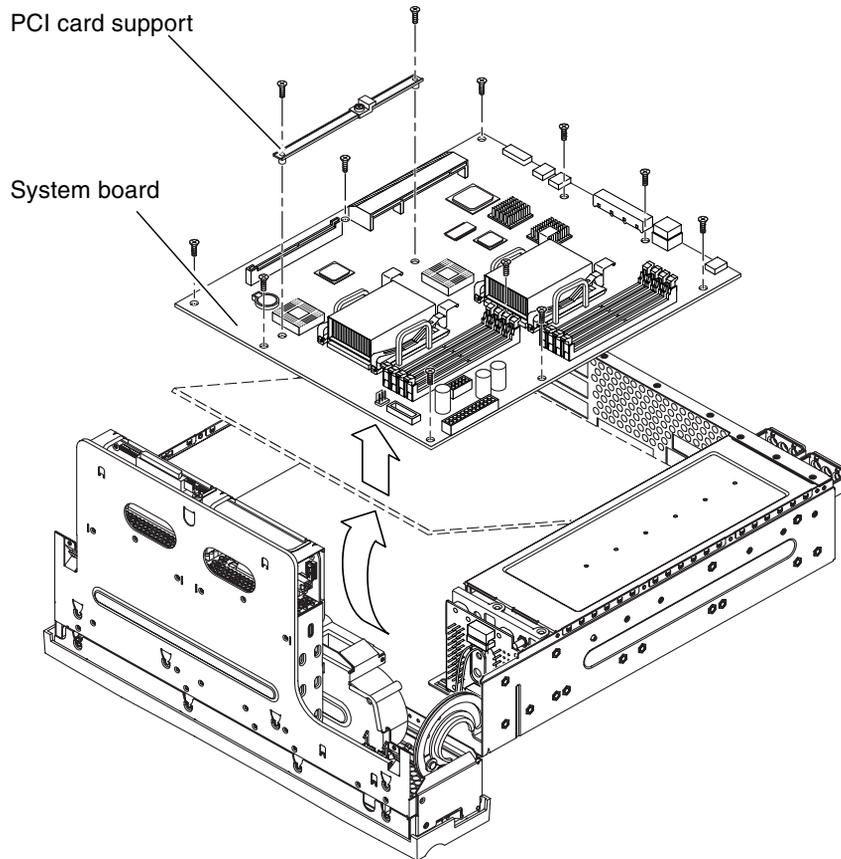

FIGURE 5-17 Removing and Installing a System Board
15. Unscrew the two screws and remove the PCI card support (FIGURE 5-17).
16. Remove the ten screws that secure the system board to the bottom of the chassis (FIGURE 5-17).
17. Lift the front of the system board slightly and slide the system board toward the front of the chassis so that the SCSI, Ethernet, and serial connectors come free from the chassis (FIGURE 5-17).
9. Position the new system board so that the SCSI, Ethernet, and serial connectors are firmly positioned in their slots at the rear of the chassis and insert the board into the chassis (FIGURE 5-17).
11. Replace the PCI card support and install the two screws that secure it (FIGURE 5-17).